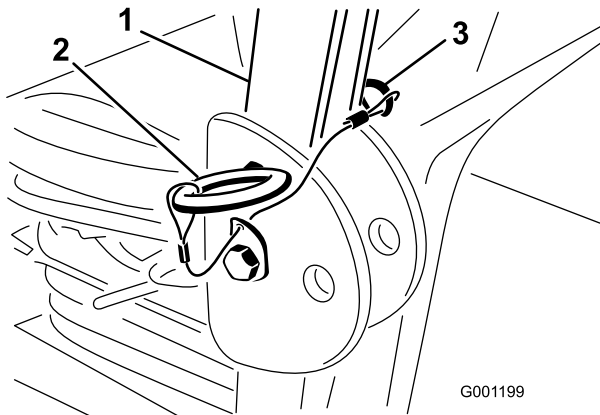

Figure 8
2. With the roll bar in the raised position, remove the hairpin cotters and the 2 pins (Figure 8).